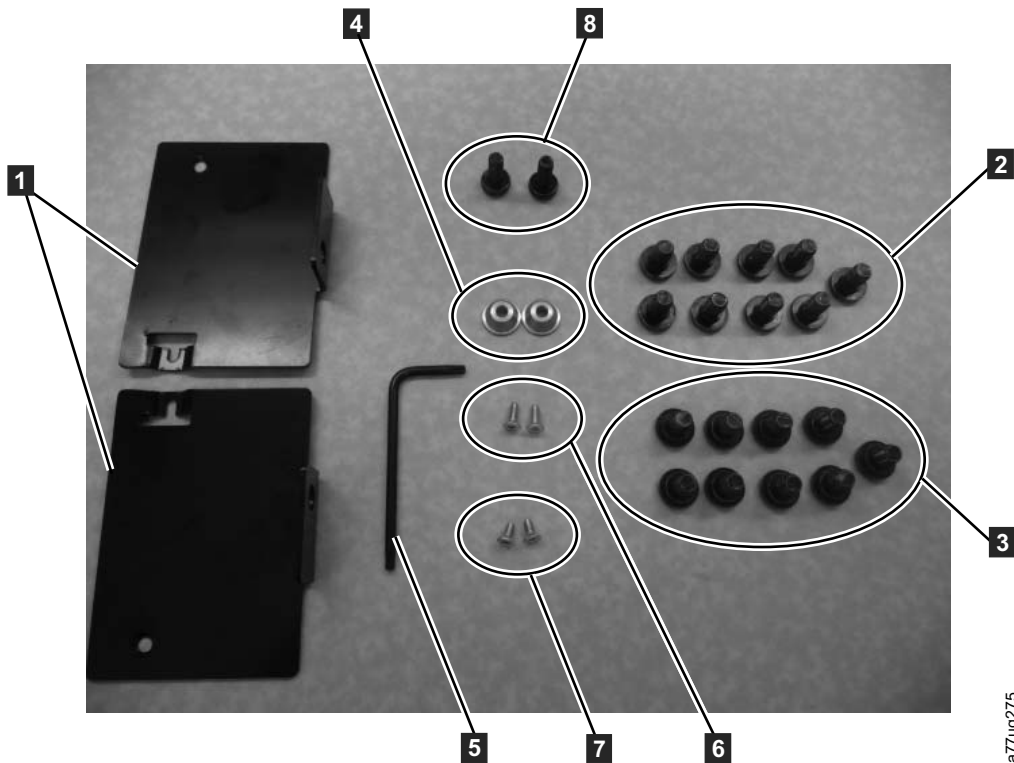

Figure 4-4. Rack Kit A mounting hardware
1. Verify which rack kit was included in your shipment. Although there are two different rack kits, the steps to install them are the same. After verifying the Rack Kit you received, see Figure 4-4 for the installation steps.
- 2 mounting brackets (**1** in Figure 4-4)
- 1 Torx wrench (**5** in Figure 4-4)